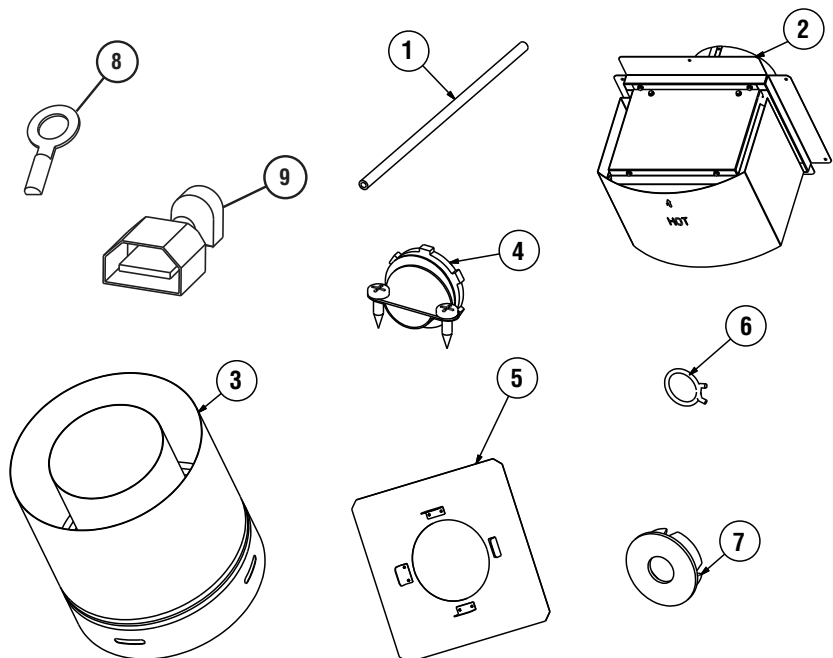

**Figure 16A - Flex Adaptor (87L00)**
**NOTE:** 87L00 and F4502 are required if using flex vent and is not provided in kit. Please see **Page 31** and **Figure 16A**):